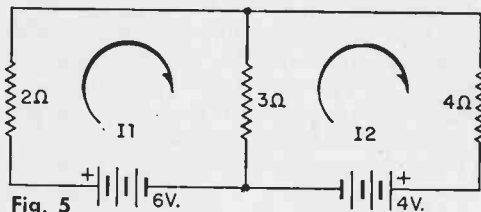

Fig. 5
**Getting Tougher.** Now solve for currents  $I_1$  and  $I_2$  and the voltage drop and polarity across the 3-ohm resistor in Fig. 5. Note that Fig. 5 is very much like Fig. 4 except that that connections for the 4-volt battery have been reversed. This will greatly alter the final solution. First, write the equations: